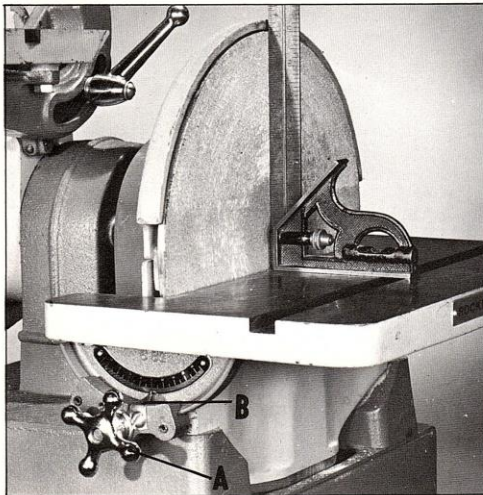

Fig. 17.
1. Place an accurate square on the table with one end of the square against the disc, as shown in Fig. 17.
2. Loosen table locking knobs (A) Fig. 17, which are located on each end of the table and move the table until it is at 90° to the disc. Then tighten the table locking knobs (A).
3. Adjust the pointer (B) Fig. 17 so it points to the "O" mark on the scale.